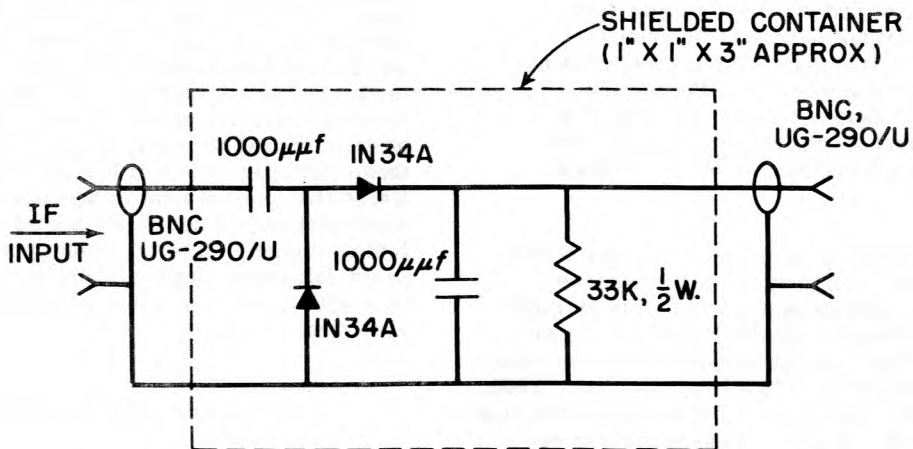

Figure 6-12. Crystal Detector for Use in Preamplifier Alignment
5. Crystal detector, arranged as shown in figure 6-12.